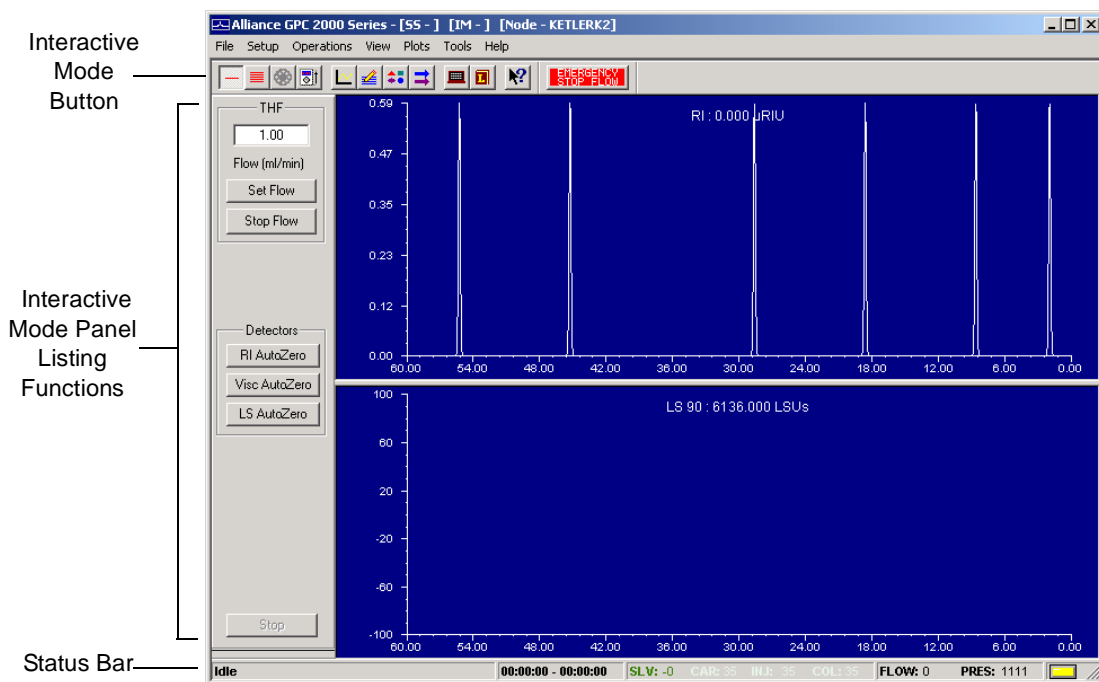

Figure 3-3 Interactive Mode Window
When startup is complete, the Message Board appears and minimizes. Then the Interactive Mode window appears (Figure 3-3). The status indicator (lower right) shows the current system status, reproducing the function of the status LED on the front panel. If a problem occurs, or if the status indicator is red, see Chapter 5.
1. Click  (Interactive Mode) in the Interactive Mode window (Figure 3-3).